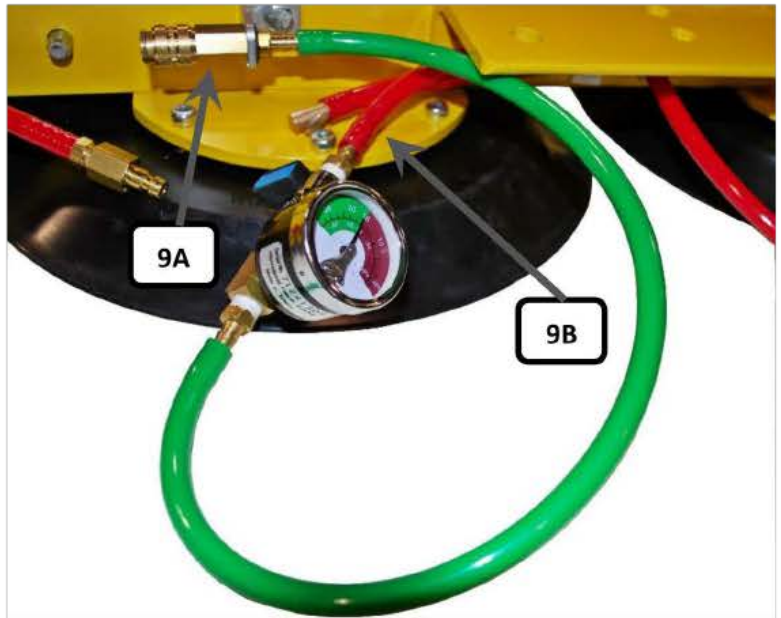

FIGURE 9
- 14) Remove the hose attached to one of the outer pad quick connects (9A). Using an additional piece of hose, attach the end of the ball valve assembly with the vacuum gauge to one end of this hose and attach the other end of the hose to the barbed fitting of the quick connect. See FIGURE 9. Attach the other end of the ball valve to the hose (9B) that was removed from the quick connect.
Note, if your lifter was built before February 2010 the quick connect is attached to a tee pad fitting and is located further out on the pad arm; if it was built after February 2010 the quick connect is attached to a Y-fitting and the quick connect is mounted where shown in FIGURE 9.
- 15) With the ball valve in the open position (handle in line with the valve) and the vacuum pads attached to a clean, smooth non-porous surface, turn on the lifter and switch the lifter to the apply position. Allow the system to reach a suitable vacuum level or to shut off automatically, then close the ball valve (handle turned perpendicular to the valve as shown in FIGURE 9) and turn the lifter off at the power switch.